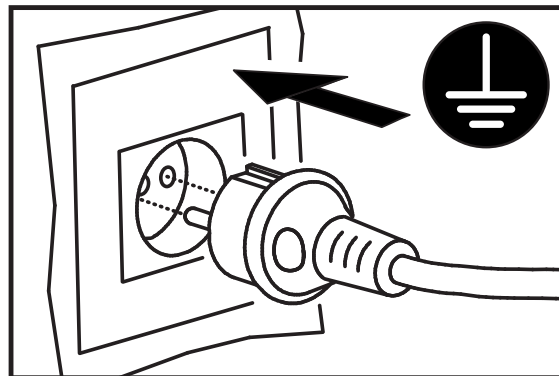

Fig. 6
- ▶ **4.1.4.** Connect the power plug to the mains (Fig. 6).